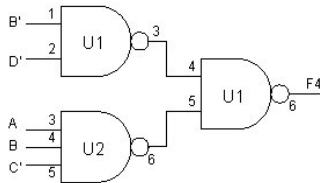

Figure 9. Logic Diagram
- Draw a Logic diagram (figure 9)